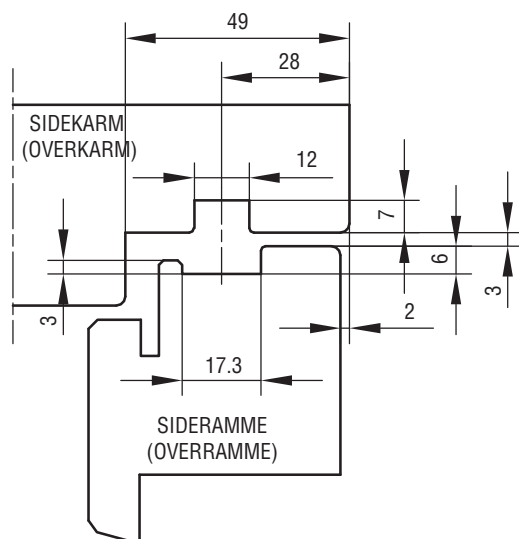

FIG. 1
- 21170-75: SIDE- OG ØVERSTE KARM OG RAMME FORSYNES MED GENNEMGÅENDE NOTER, SE FIG. 1.
21179-82: SIDESTYKKERNE I KARM OG RAMME FORSYNES MED GENNEMGÅENDE NOTER, SE FIG. 1.
21179-82: HVIS DEN ØVERSTE RAMME ER FORSYNET MED SPOR, FIG. 1, ANBRINGES FØRST DE MEDSENDTE AFSTANDSSTYKKER YDERST I HVER SIDE AF OVERRAMMENS NOTER.
1. SIDE- OG ØVERSTE KARM OG RAMME FORSYNES MED GENNEMGÅENDE NOTER, SE FIG. 1.